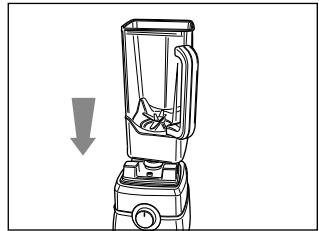
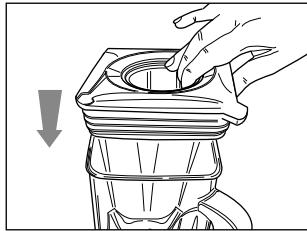

Fig. 2
Fig. 3
- Make sure the appliance is unplugged and the operation dial (F) is on position “0”.
- Position the goblet (C) on motor body (E) properly and press it slightly downwards until it locks in place (Fig. 2).
- Cut fruit and vegetable into small pieces and place them into the goblet (C) adding water or milk in an amount not exceeding the MAX 2.0 l level (the minimum filling is 400 ml). The maximum level for liquids is 1200 ml.
- Position the lid (B) on the goblet (C) and press it slightly downwards until it locks in place (Fig. 3).